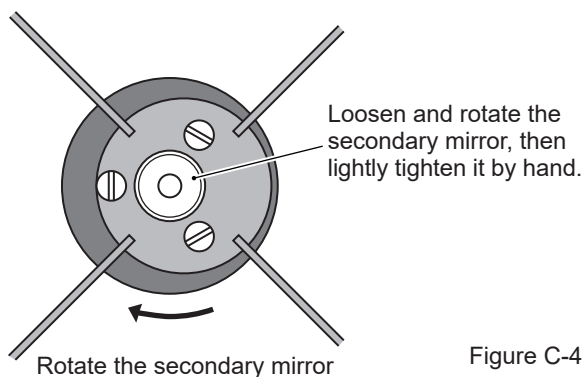
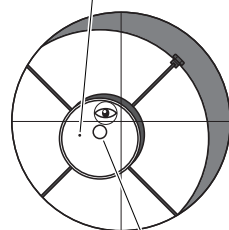

Figure C-4
Figure C-5A
2. If the optical axis is off, as shown in Fig. C-5A, loosen the secondary mirror securing nut and rotate the secondary as shown in Fig. C-4.